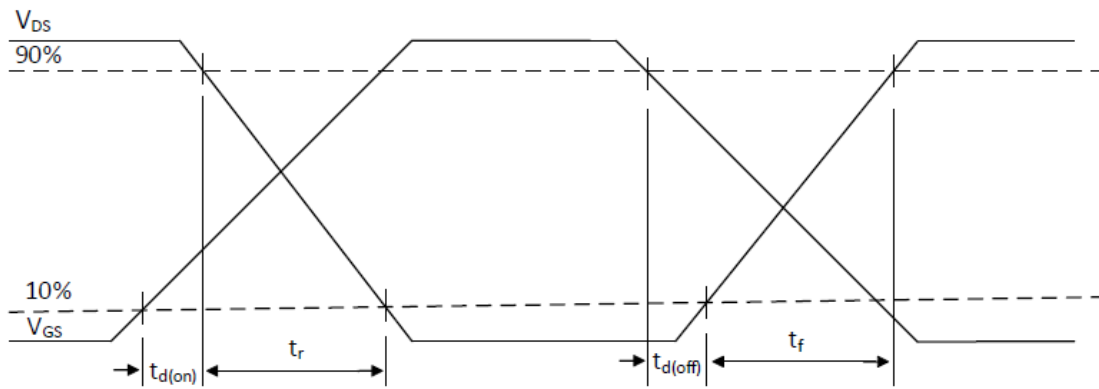

Figure 17: Switching Time Waveforms
- (7) See Figure 17 for switching time definition waveforms.
- (8)  $L_P$  = parasitic inductance.